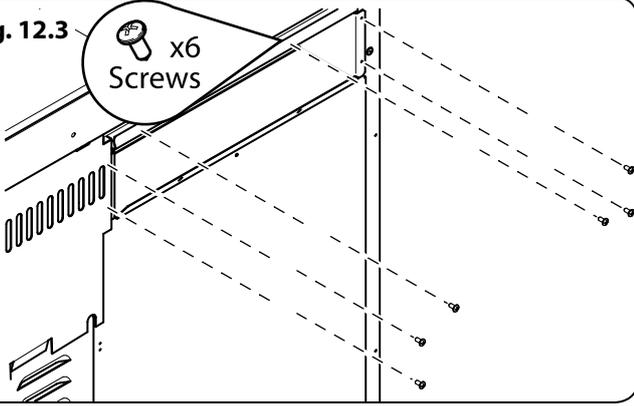

Fig. 12.4
2. The shape of the molex plug should match the socket. Gently connect the molex plug to the molex connector socket **Fig. 12.4**.